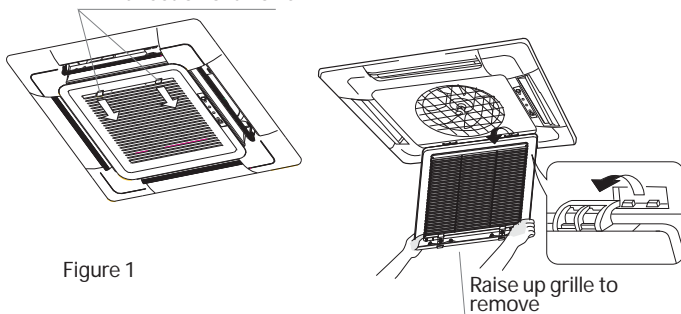

Figure 1
- Press the 2 buttons down on the grille and slide it towards the direction of the arrows as shown in Fig. 1